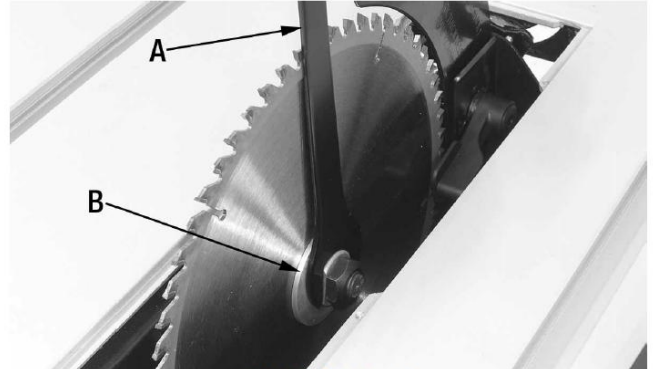
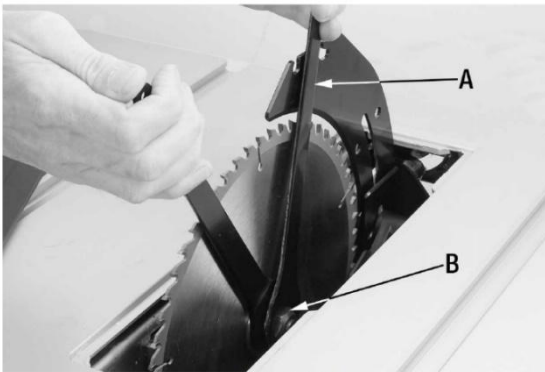
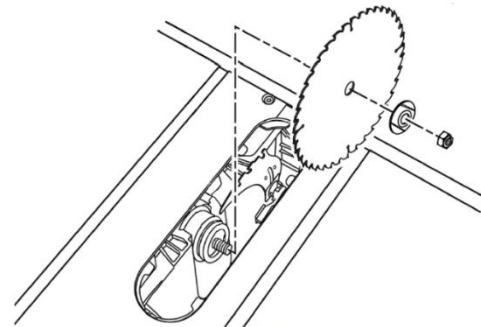

FIGURE 18
FIGURE 19
FIGURE 20
3. Place the open end of one of the adjustment wrenches (A) Fig.18 on the flat portion of the outer flange (B) to prevent the saw arbor and blade from rotating.
4. Then place the other open end adjustment wrench (A) Fig.19 on the arbor nut (B) Fig.19 and turn the arbor nut counterclockwise, remove arbor nut and outer flange (B) Fig.18. Refer to illustration in Fig.20.